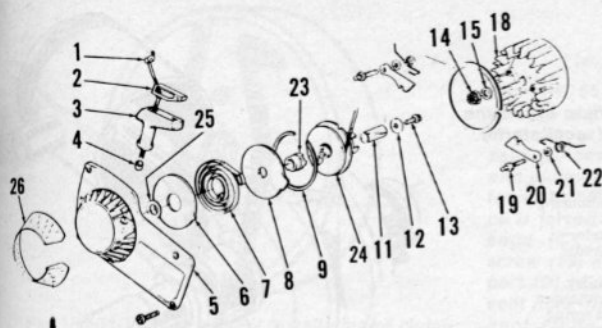

Fig. HL120A—Exploded view of rewind starter used on later models. Refer to Fig. HL120 for parts identification, except: 25. Washer; 26. Screen.
Fig. HL120—Exploded view of typical pawl type rewind starter used on early models. Refer also to Figs. HL120A, HL121 and 122. Late type rope pulley (24) and separate spring lock (23) can be installed if necessary to renew early type pulley (10) with integral lock. On models XL-103E and XL-104E, a stationary screen is attached to outside of housing (5) and rotating screen (17) is not used.